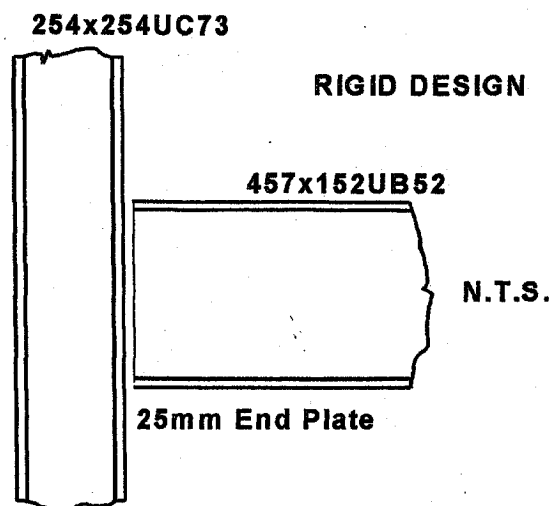

Figure Q3
3. Figure Q3 shows a rigid beam-to-column end-plate joint. The joint is loaded by a factored moment of 200 kNm and a factored shear force of 100 kN.